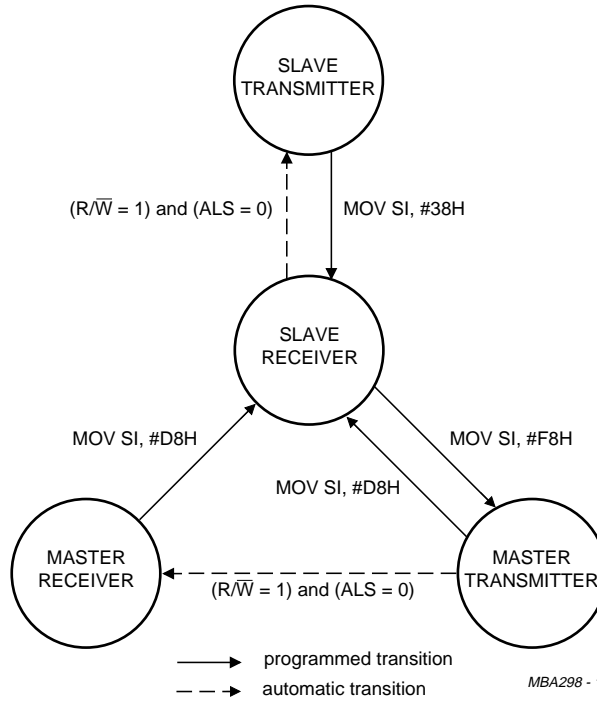

Fig.15 State diagram of the I2C-bus interface.
MST and TRX together define the state of the I2C-bus interface. When not engaged in a bus transfer MST and TRX should always be at zero, the slave/receiver state (see Fig.15). Return to this state is always performed by software. If the previous state was the master state, the transition (to slave/receiver by MOV1, #D8H) involves a stop condition which, as a consequence, clears both MST and TRX.
The Bus Busy bit (BB) is controlled by the I2C-bus interface or by software in the bus master to generate the start and stop conditions. When a master clears BB (by MOV S1, #D8H), the I2C-bus interface automatically clears MST and TRX, thereby returning to the slave/receiver state (see Fig.15). If BB = 1, write access to S1 is inhibited, except for the master or an addressed slave. Should BB be inadvertently set by excessive noise on the bus, the deadlock can be resolved by two consecutive MOV S1, #18H, the first of which just clears BB.
When a slave/transmitter detects an end of transmission (signalled by the lack of an acknowledgment from the master receiver), it has to access S1 in order to cancel PIN and to become slave/receiver. However, BB should remain set. This is reflected by MOV S1, #38H as illustrated in Fig.15. With PIN = 1, 'clock synchronization' terminates, enabling the master to generate the stop condition.